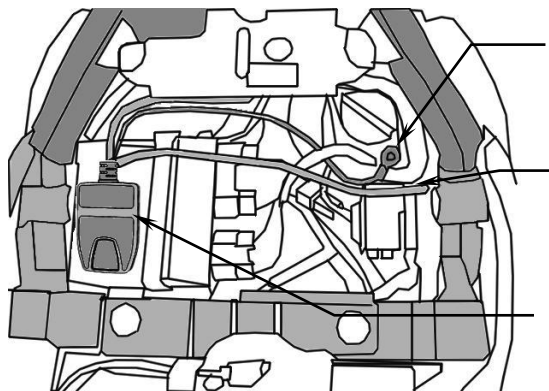

FIGURE 4
6. Using the supplied Velcro pads, place the module in the position shown, in Figure 4. Attach the black ground wire from the Fi2000 to the 5mm allen head bolt securing the battery ground wire, see Figure 4. Before reinstalling the seat, verify connections.